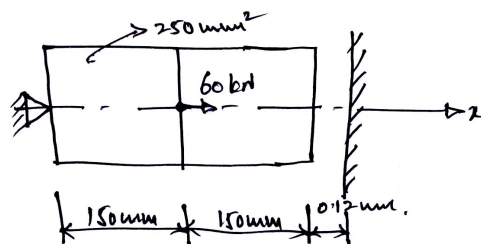

Fig.Q10(c)
c. For the continuum as shown in Fig.Q10(c). Determine the nodal displacement, reactions at the supports. Take $E = 200\text{GPa}$.